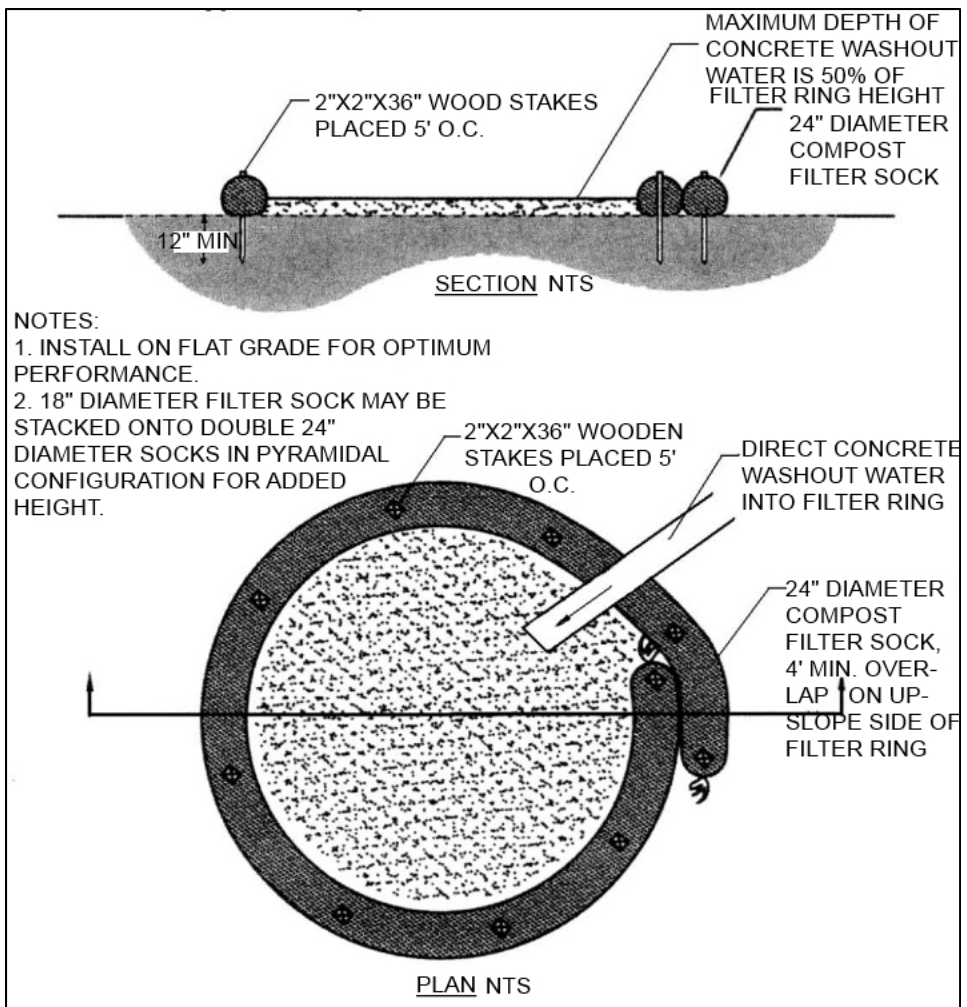

Figure 57: Concrete Washout
- See **Figure 57** for construction details.